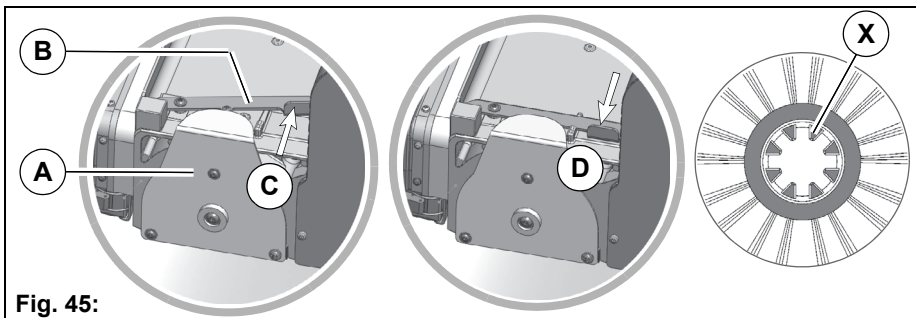

Fig. 45:
3. Unlock the brush holder **Fig. 45-A**:
Press the locking lever **Fig. 45-B** into position **C** and remove the brush holder.
2. Press the locking lever **Fig. 45-B** into position **C** and install the brush holder.